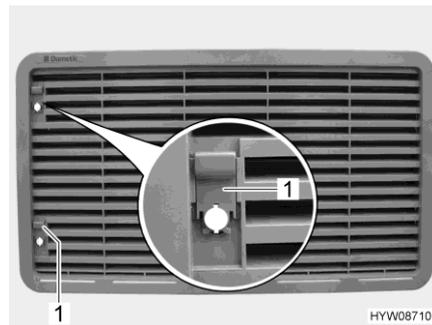

Fig. 184 Refrigerator ventilation grill
- Push sliding trap (Fig. 184,1) upward.